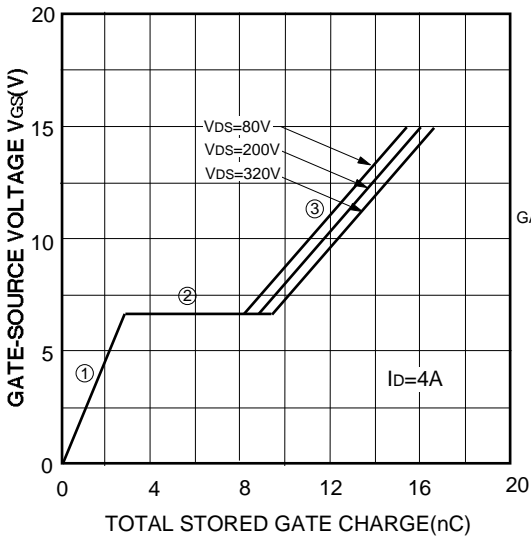

Fig.35 The relation between applied gate-source voltage and stored gate charge
Fig.35 shows the relation between the applied gate voltage and the stored gate charge. In the region ①, the charge is mainly stored at Cgs as the depletion is spread and CGD is small owing to the off-state of MOS-FIT and the high drain voltage. In the region ②, the CGD is multiplied by the "mirror effect" as the characteristics of MOS-FIT transfers from off-state to on-state. In the region ③, both the CGD and Cgs affect to the characteristics as the MOS-FIT is on-state and the drain voltage is low. The charging and discharging current caused by this gate charge makes the gate power dissipation. The relation between gate drive current Id and total gate charge QGSH is shown by following equation;